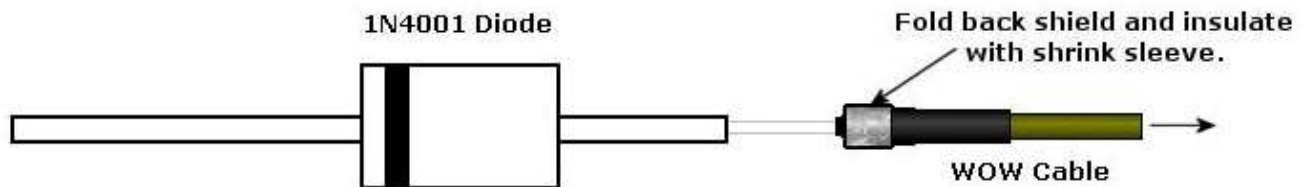

Figure B- 16: WOW Diode Orientation
- ❑ 020 Splice the 1N4001 (300-00034) diode to the ON GROUND SW “AAD09A24” cable. Refer to Figure B- 16 for the correct orientation of the diode. The diode must be located as close as possible to the WOW connection point.